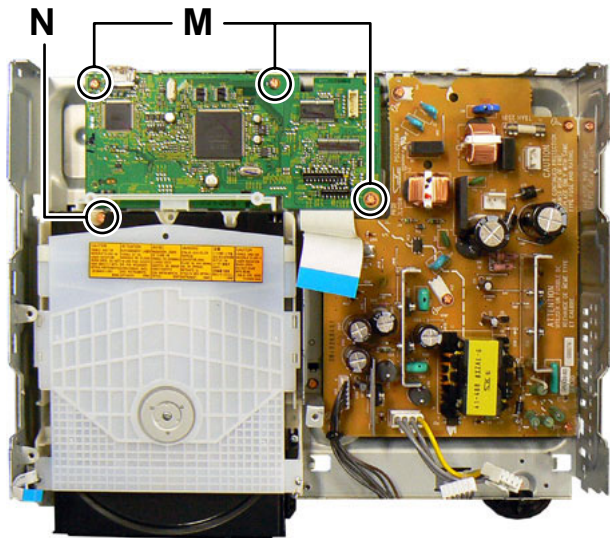

Fig.15
3.1.7 Removing the DVD mechanism (See Fig.15)